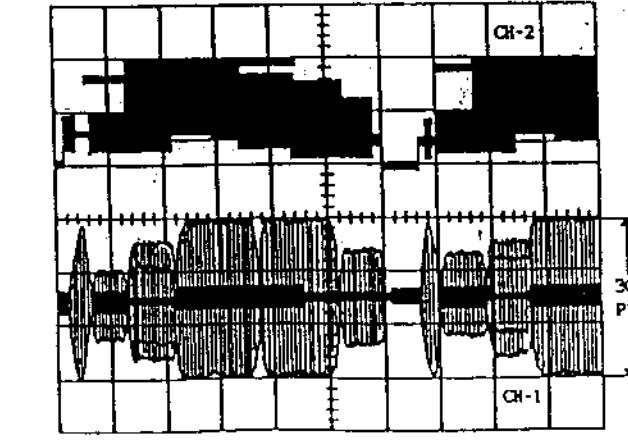

Fig. 17-a
- (1) Connect CH-1 on the oscilloscope to TP4101 and CH-2 to TP4201. Reduce Rec.-Luminance signal factors by turning VR4102 fully counter-clockwise.
- (2) Adjust VR4101 so that the cyan level becomes  $30 \pm 2\text{mVp-p}$  as shown in Fig. 17-a.
- (3) Adjust VR4102 so that the horizontal sync. level becomes  $120 \pm 5\text{mVp-p}$  as shown in Fig. 17-b.